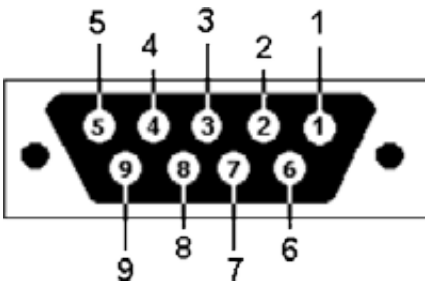

Figure 6-20. MRU External Alarms Connector Pin Out
- 1. Connect the external alarms cable (ordered separately) to the chassis's DB9 “External Alarms” connector. Refer to Table 6-5 and to Figure 6-20 for pin out information.